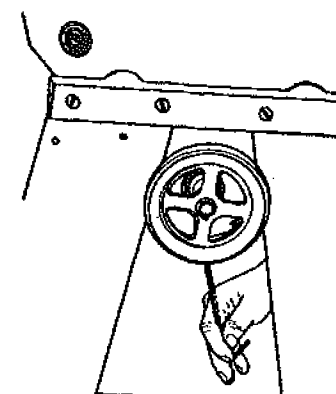

Fig. 35
43. When aligned, tighten the motor pulley's setscrew, as shown in Fig. 35.